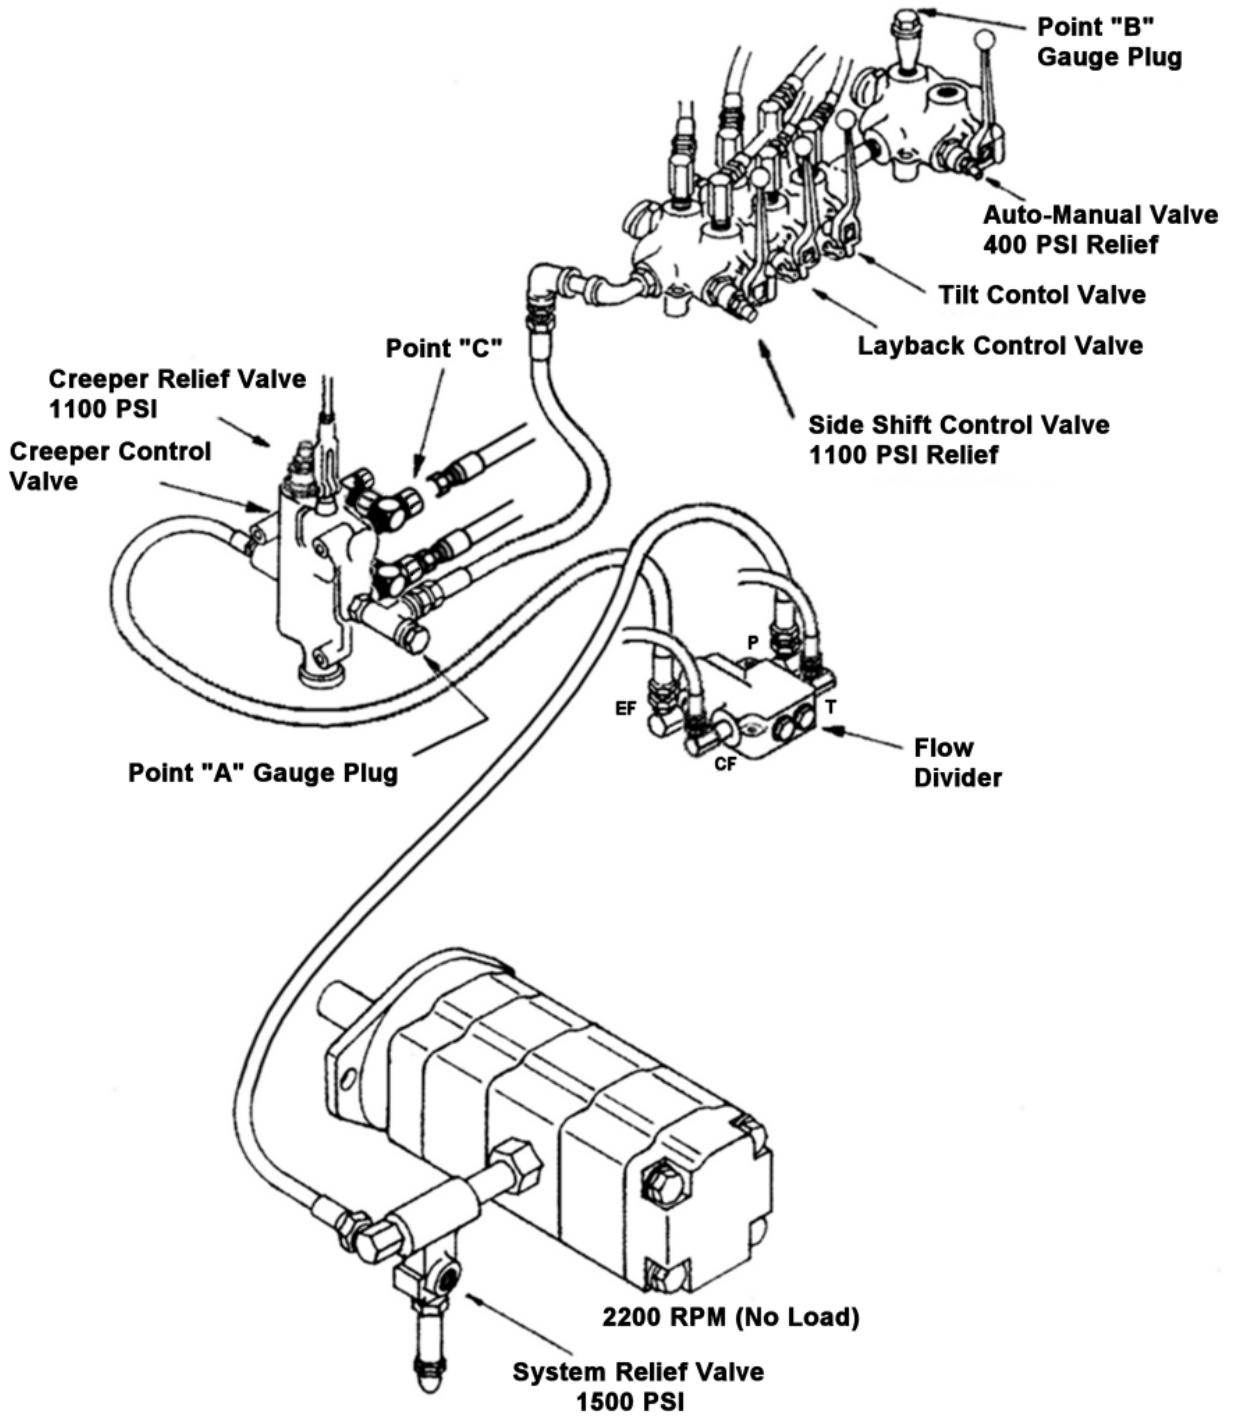

Figure 8-3
1. Remove the pipe plug from the tee fitting at then creeper control valve. Install a 2000psi gauge in the tee. (Reference point "A" in Figure 8-3).
11. With both valves actuated, the gauge attached at point "A" (Figure 8-3) should read 1500 psi.
12. The main-relief valve for the control circuits is located at the left side of the hydraulic pump at the rear of the machine (see Figure 8-3).
2. The sideshift relief valve is located in the body of the three-spool control valve, beside the left control spool (see Figure 8-3).
4. Push the sideshift control-valve handle forward until the carriage reaches the end of its travel. Gauge pressure at point "A" (see Figure 8-3) should read 1100 psi.
2. Remove the plug and install a 1000 psi gauge in the tee fitting at the auto-manual control valve (refer to point "B" in Figure 8-3).